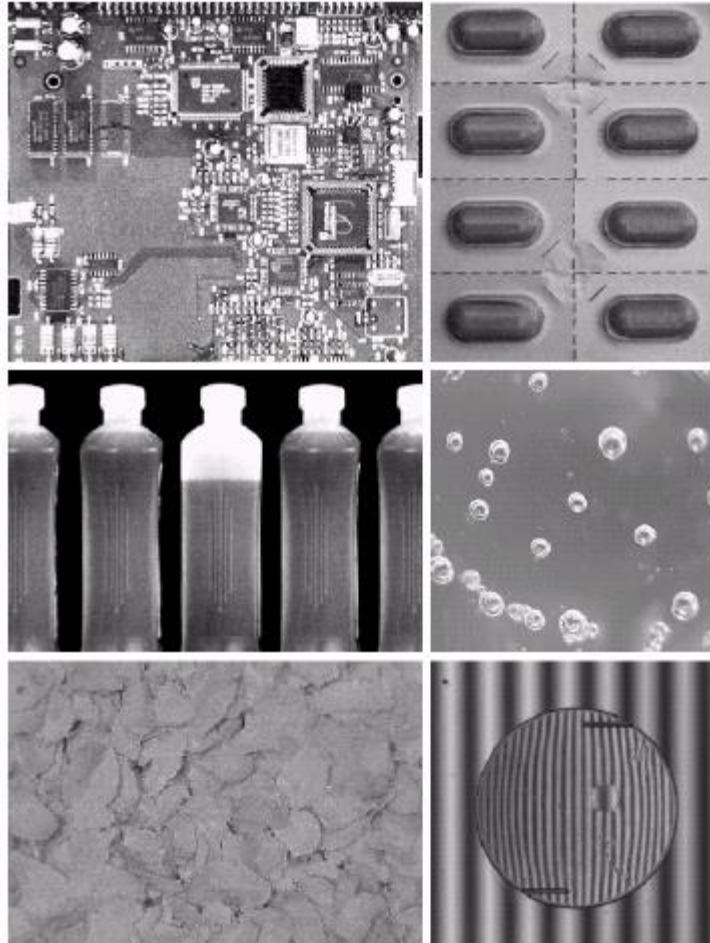

Figure10: Some examples of manufactured goods often checked using digital image processing
2. Industrial inspection (Figure10):